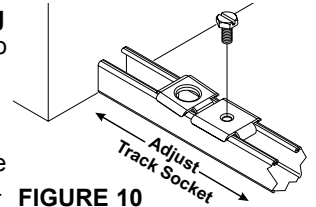

FIGURE 10
**To make tops of panels parallel to top track,** begin adjustment with doors in closed position. Loosen lower or upper track socket and slide in the desired direction (Figure 10). If necessary, adjust track sockets to obtain 1/8" clearance between the panels at the center when doors are in the closed position. **To make tops of panels even,** raise or lower panels by adjusting top of lower pivot (see Vertical Adjustment, Figure 5) to allow 1/8" between top track and top of panels. **TIGHTEN ROD CLAMP SCREW ON THREADED PIVOT.**